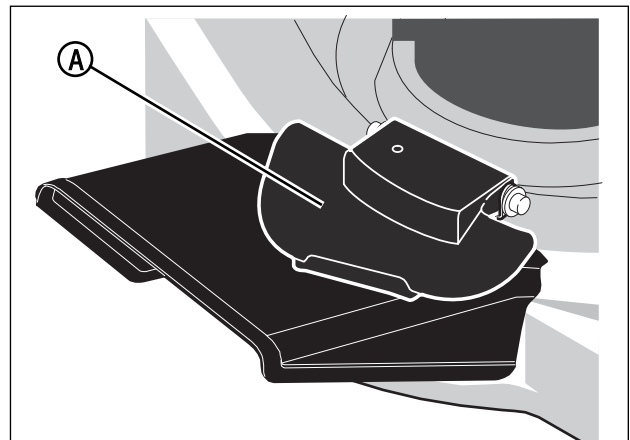

Figure 15: Releasing the mulcher cover
4. Lower the mulcher cover (A, Figure 15).